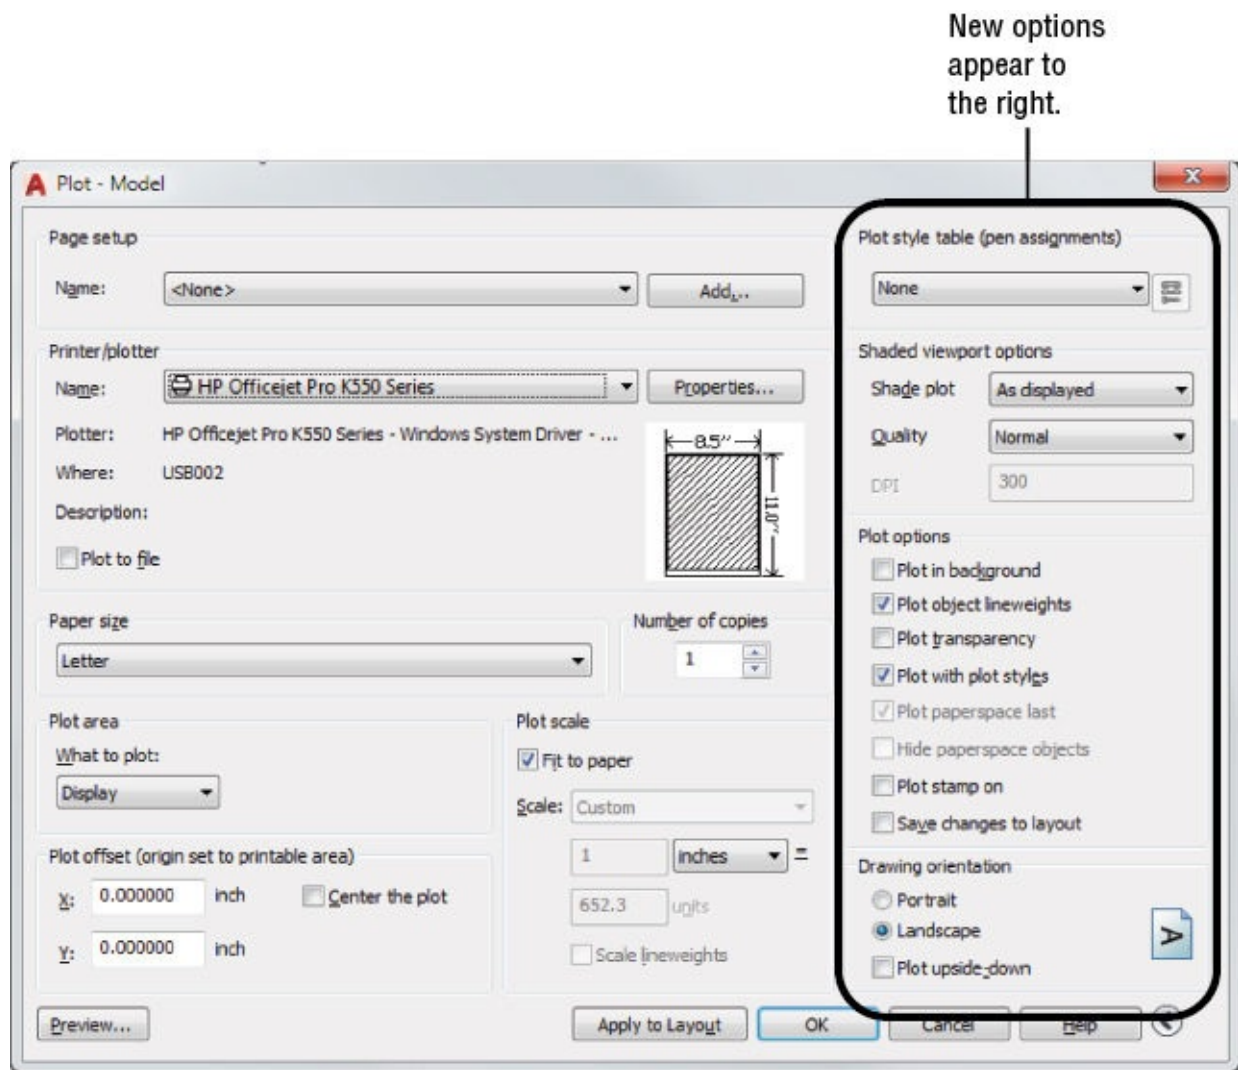

FIGURE 8.4 Open the additional options on the right.
3. Click the More Options button. You'll see some additional options appear on the right side of the dialog box (see Figure 8.4).